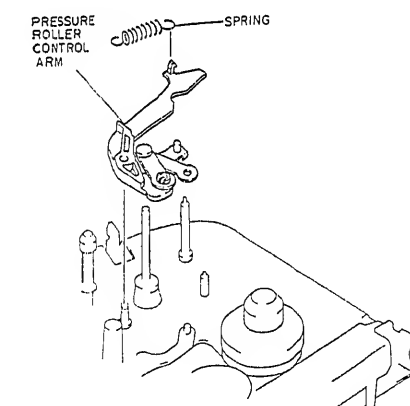

Fig. 2-84
1. Release the spring between the pressure roller control arm and chassis. (See Fig. 2-84)